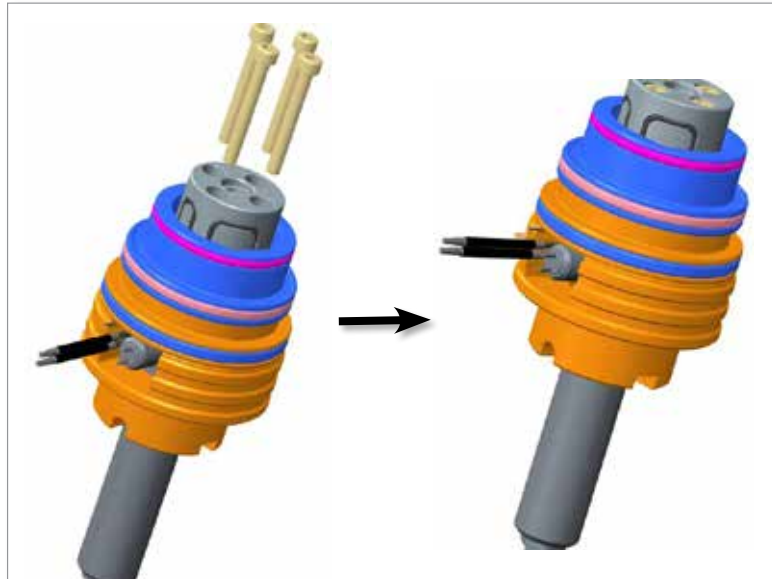

Figure 11-18 Bolt valve bushing unit to heated body
17. Attach the valve bushing unit to the heated body using socket head cap screws. Torque to 7 Nm (5 ft-lb). See Figure 11-18.